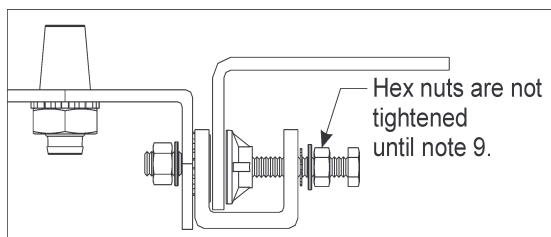

Figure 7- Mounting Location
10. Install antenna to Air Dam Shield of truck, See Figure 7.